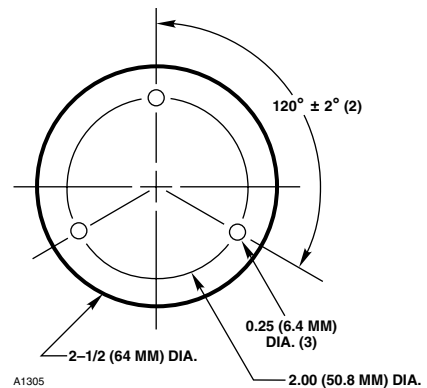

Figure 7—Mounting Base Dimensions
3. Mount the detector junction box base and mounting bracket assembly on the wall or ceiling. See Figures 7 and 8 for dimensions of the mounting bracket. The mounting surface should be free of excessive heat and vibration.